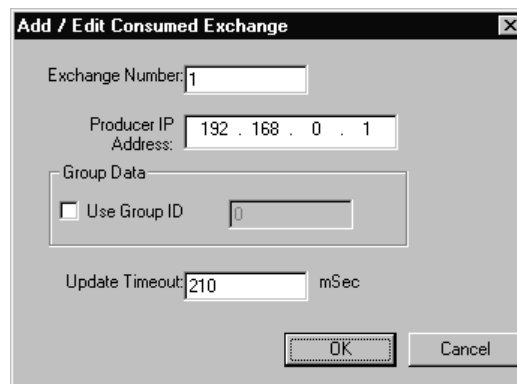

Figure 6.18 - Creating Consumed Exchange 1 - Node 2
- Now that Exchange 2 has been configured as a Produced Exchange for Node 2, it is time to configure Exchange 1 as a Consumed Exchange for Node 2. To do this, first select the **Consumed Exchanges** tab (Figure 6.2 [page 33]) and click on the **Add Exch** button to create a Consumed Exchange. Then fill in the parameters, as shown in Figure 6.18 below, and click **OK**.